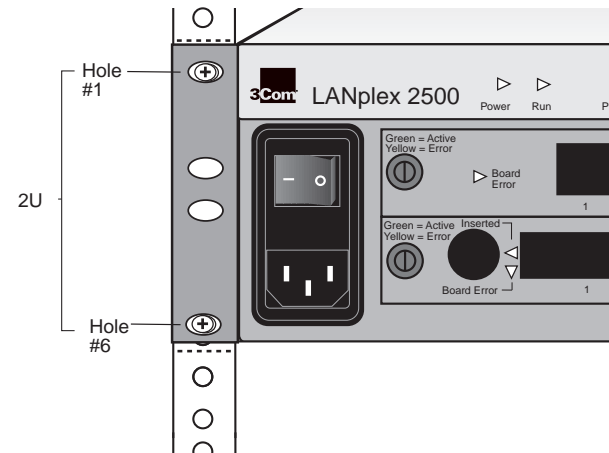

Figure 2-4 Aligning Mounting Bracket and Rack Holes
- 2 While holding the LANplex system in place, insert the four mounting screws (10/32 x 1/2 Phillips) into the designated mounting holes on both sides of the rack. See Figure 2-4.